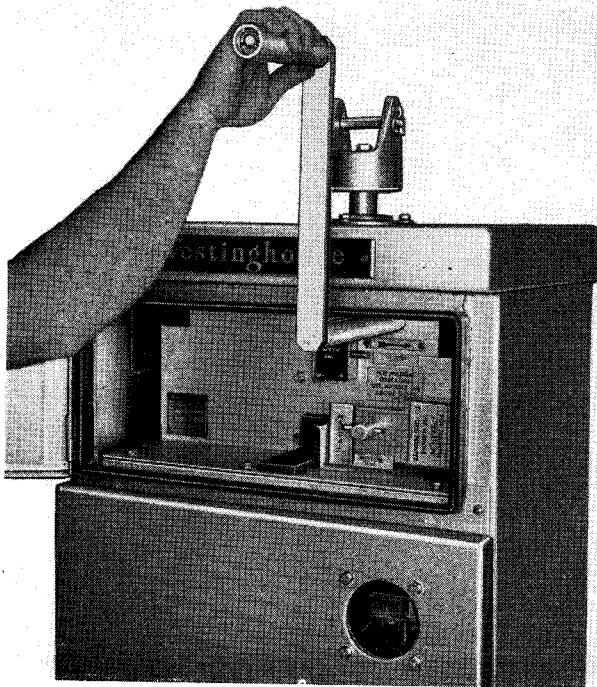

FIG. 6. Manual Operating Handle Shown in Position for Manual Operation of Motor Mechanism
5. With the pointer indicating the Manual position, remove the handle from the shaft and place it on the upper shaft, engage pin in the slot, and turn handle counterclockwise, (direction of arrow under shaft) Fig. 6 until the disconnect switch is completely open and the outboard bearing lever is against its stop. With pencil make position reference lines on the output shaft and mechanism housing while the switch is in this position.
3. With the pointer indicating the MANUAL position, remove the handle from this shaft and place it on the upper shaft, engage the pin in the slot (Fig. 6) and turn handle counter clockwise (direction of arrow under shaft) until the "OPEN" nameplate appears at the window of the lower door.